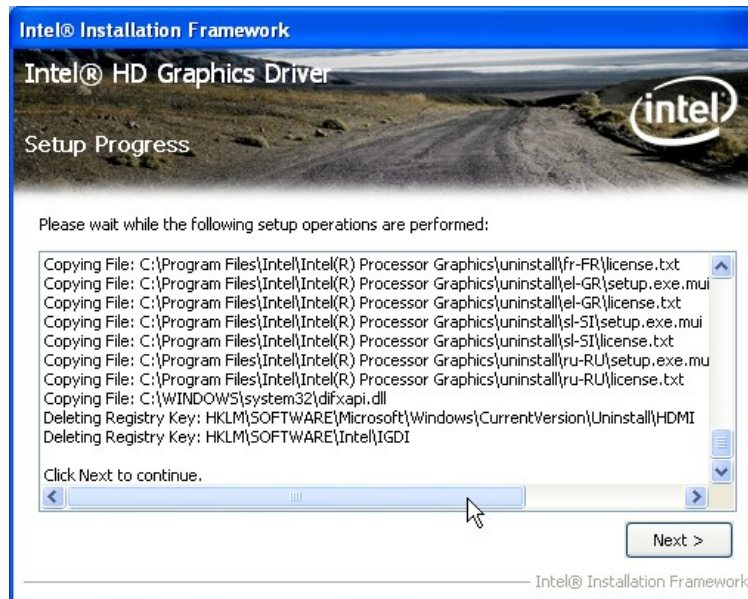

Figure 6-10: Graphics Driver Setup Operations
Step 8: Setup Operations are performed as shown in Figure 6-10.